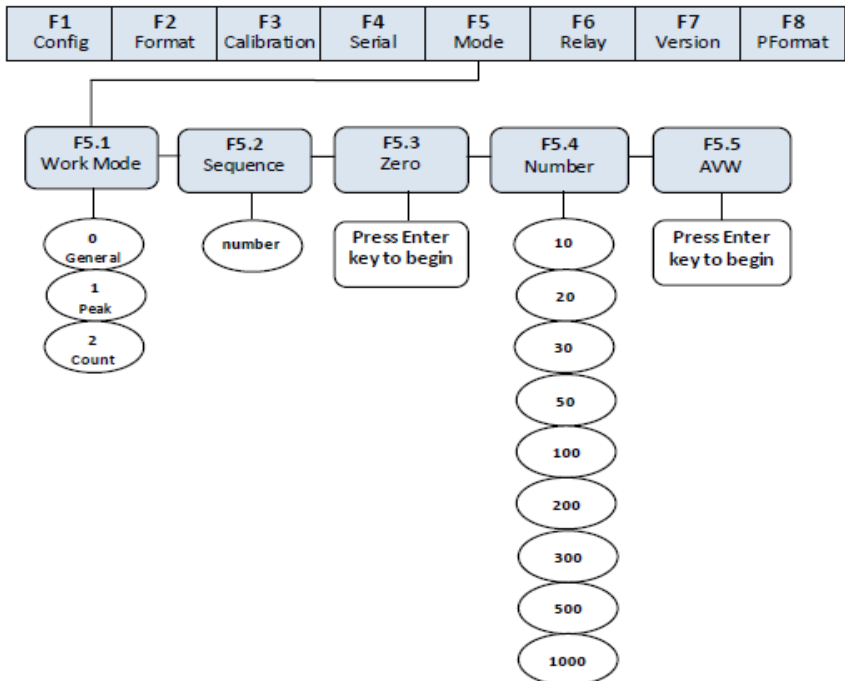

Fig. 11.1 Count Items Average Weight Setup Menu
- (1) Turn on the K1, SW2, or J1 switch to set indicator to the Configuration mode (display shows “F1”).
- (2) Press  until display shows “F5” (see Fig 11.1). Press  and the display will show “F5.1”. Press  then press  until F5.1 = 2. Next press  to save the value. Once the value is saved, “F5.2” is displayed.